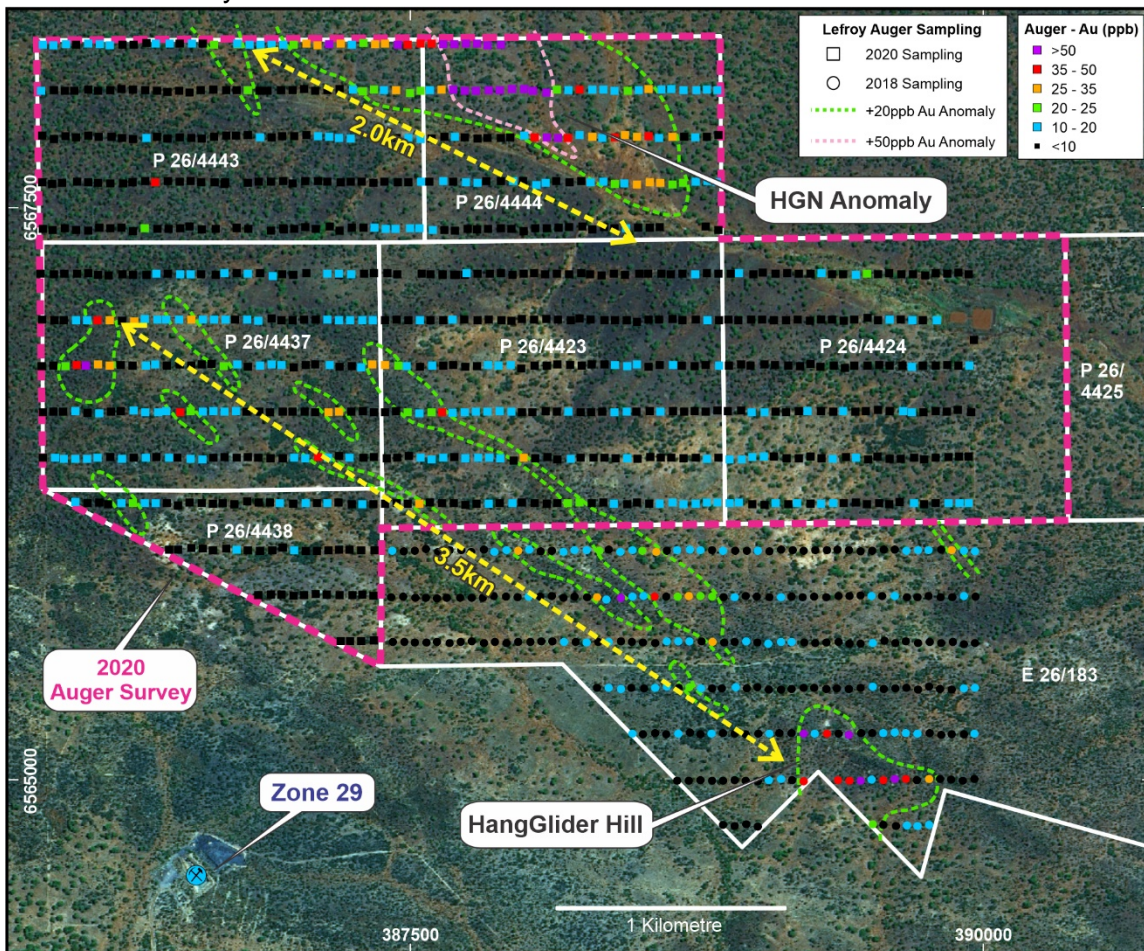

Figure 3 Inset Map-Location of Hang Glider Hill auger sample points highlight and the anomalous gold trends
Figure 2 Inset Map- Detailed location of Hang Glider Hill, location of gold nugget trend, planned auger coverage and location of recent diamond drilling relative to adjacent tenement holders Northern Star Resources and Silver Lake Resource. Refer to Figure 3 for Inset map.
Eight Hundred and four (804) samples were collected at regular 50m centres along 200m spaced east west lines, effectively covering approximately 1000 Hectares (Figure 3) of the tenement package. The auger drill sampling technique takes a single point sample of a carbonate rich horizon from up to 2m from surface and is effectively a surficial sample.
The new northern anomaly, known as Hang Glider North (HGN), is primarily located in tenement P26/4444 (Figure 3). The robust gold anomaly also has a similar north west trend, is approximately 500m in width and 2km in strike and is open to the north west based on a +20ppb Au a contour. The anomaly has a core zone that measures 400m in strike, with multiple sample values exceeding 50ppb Au, and peaking at 128ppb Au.